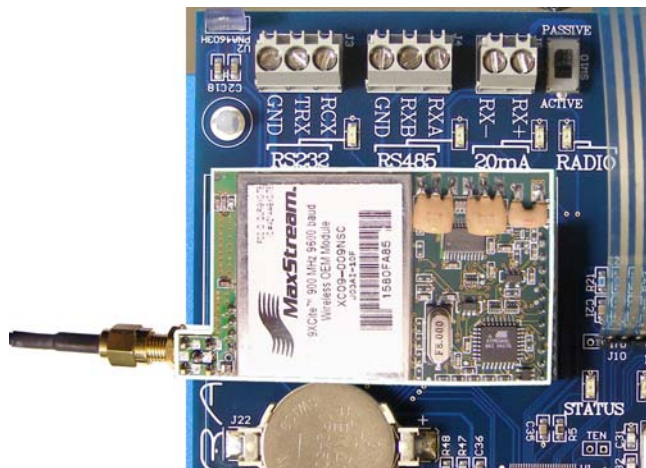

Figure 5.1 Radio Module (outlined in white) on controller board
1. Install the radio module. Plug the module into terminals on the main PC board. See Figure 5.1. The radio module plugs into the XR 2000 controller board in similar fashion.